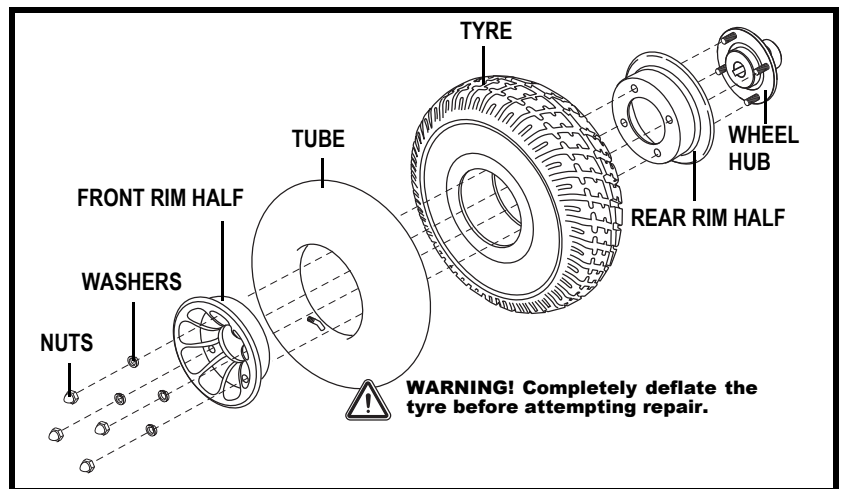

Figure 30. Drive Wheel Disassembled
6. Remove the nuts and washers from the rim assembly and separate the front and rear rim. **See figure 30.**